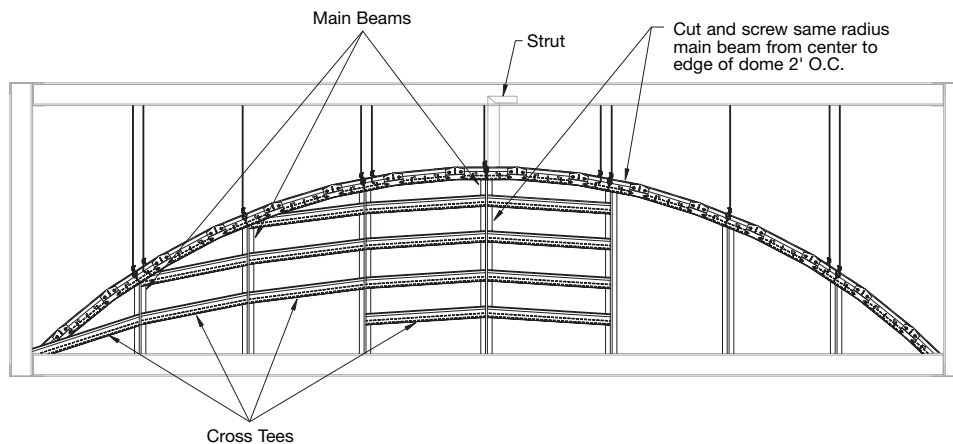

Figure 1
1. Establish two centerlines in the ellipse (Lines A-B and C-D in Figure 1).